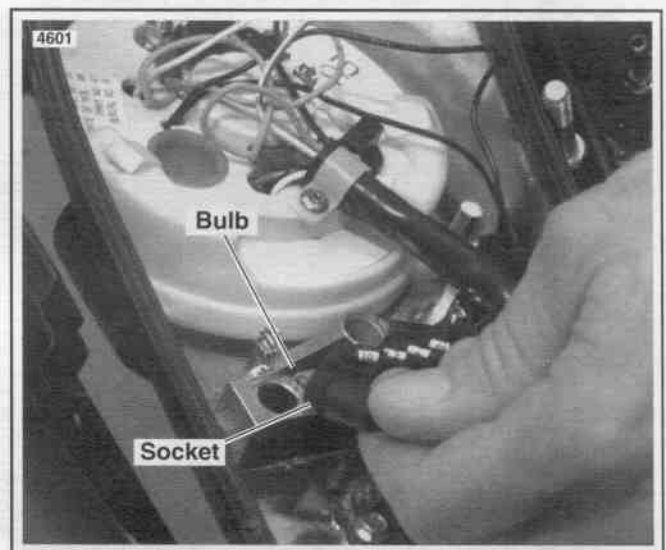

Figure 8-50. Removing Indicator Light Bulb
2. See Figure 8-50. To replace indicator bulbs, grasp indicator light socket and gently pull it from console. Pull bulb from socket. Apply a film of alcohol to the new indicator lamp sockets to lubricate the rubber, then push the sockets into their appropriate holes while rocking them until the lamp sockets are firmly seated.